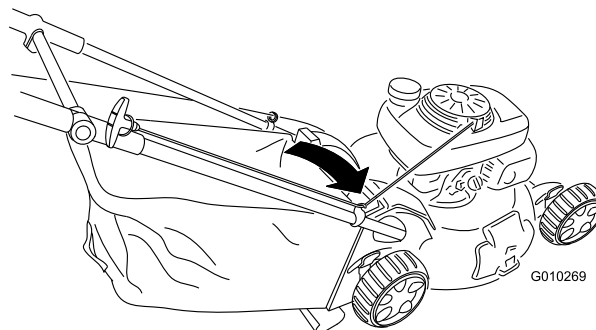

Figure 28
1. Route the starter rope around the lower rope guide (Figure 28).